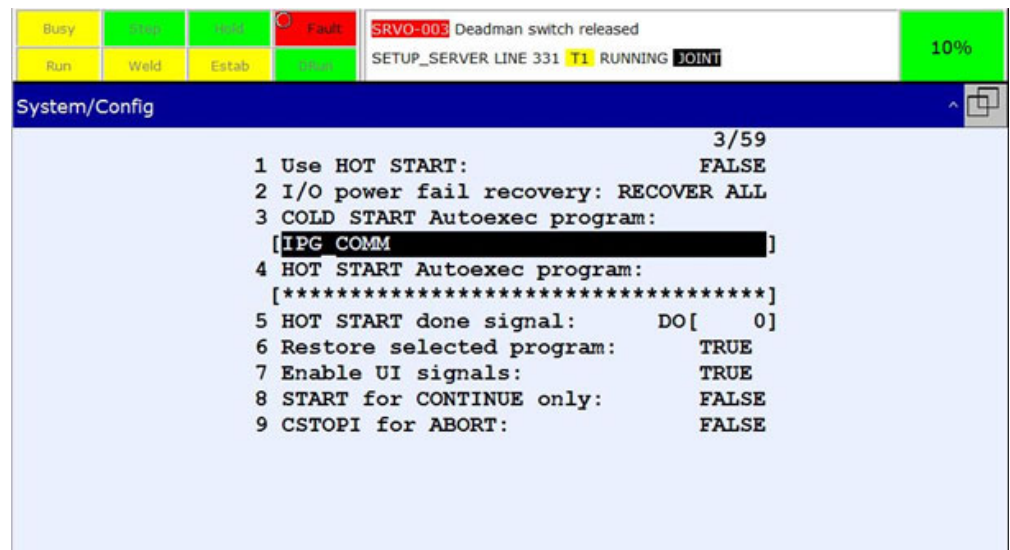

Figure 207: Setting the COLD START Autoexec Program
10. Add IPG_COMM to the "COLD START Autoexec program" setting in the FANUC Config Screen. See Figure 207 (below).